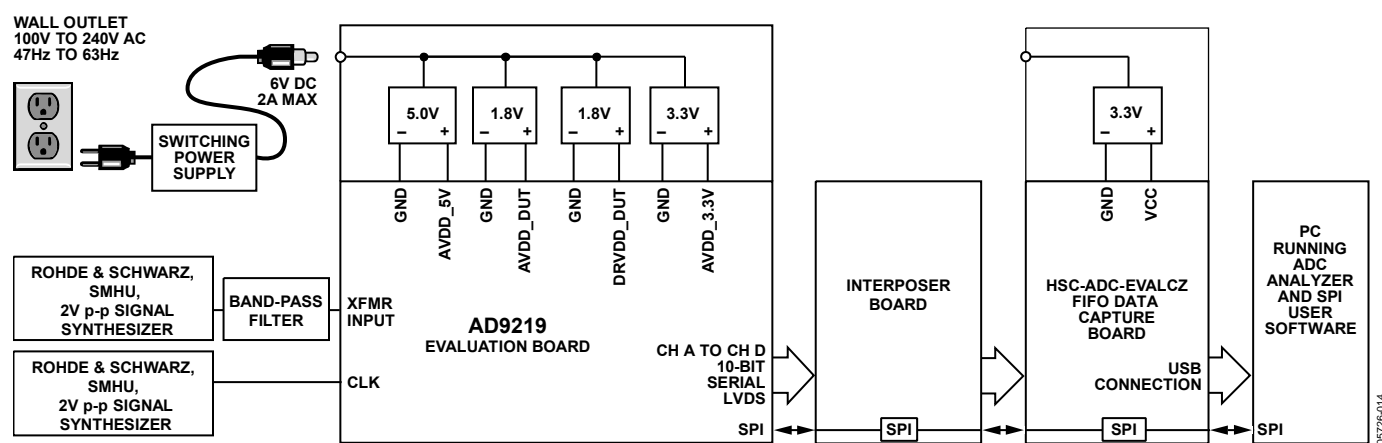
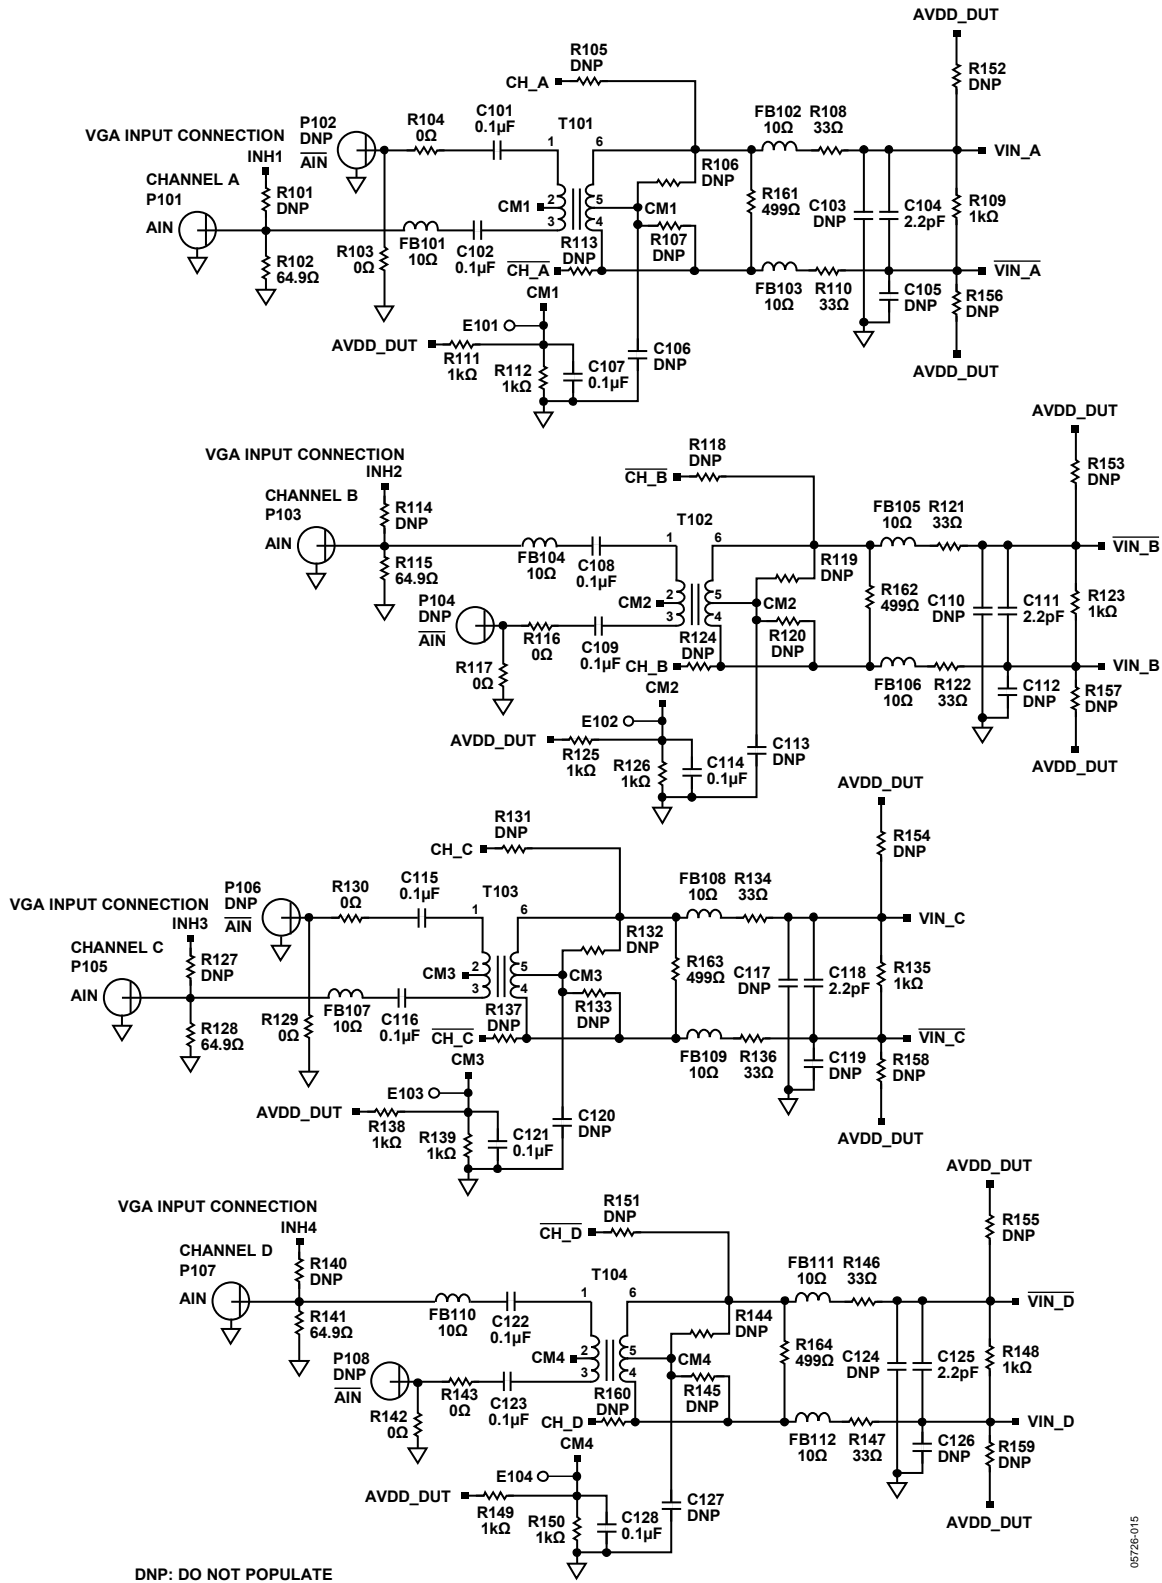
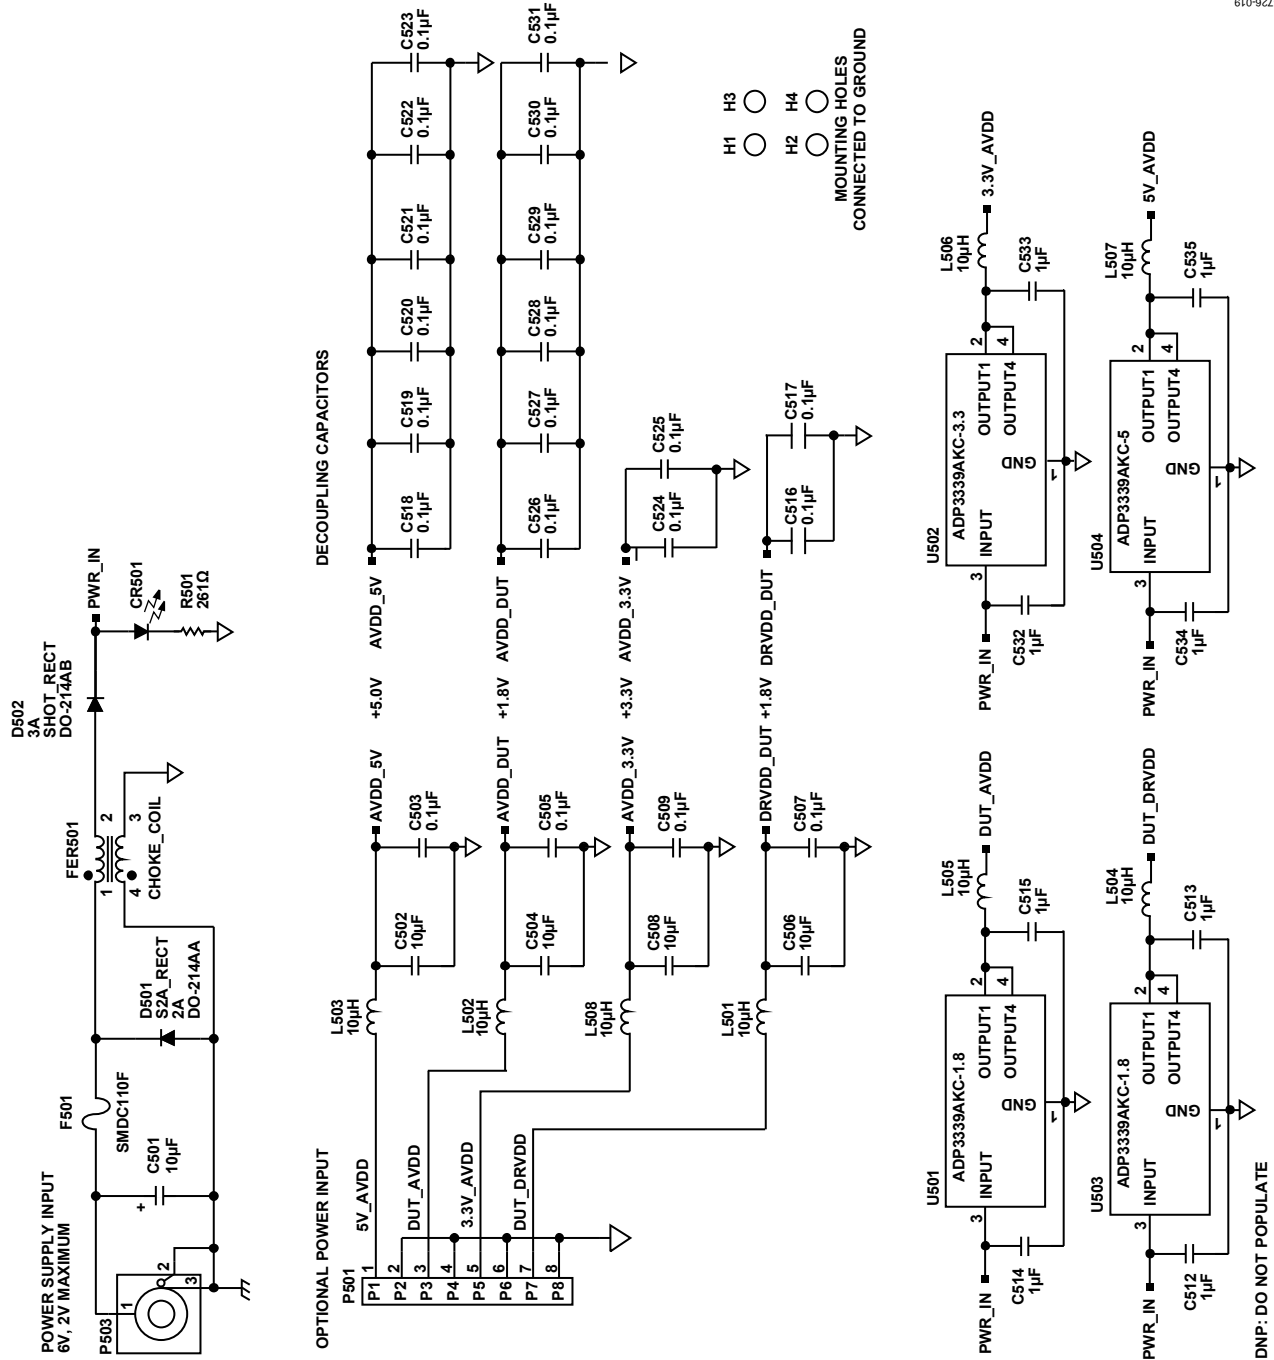
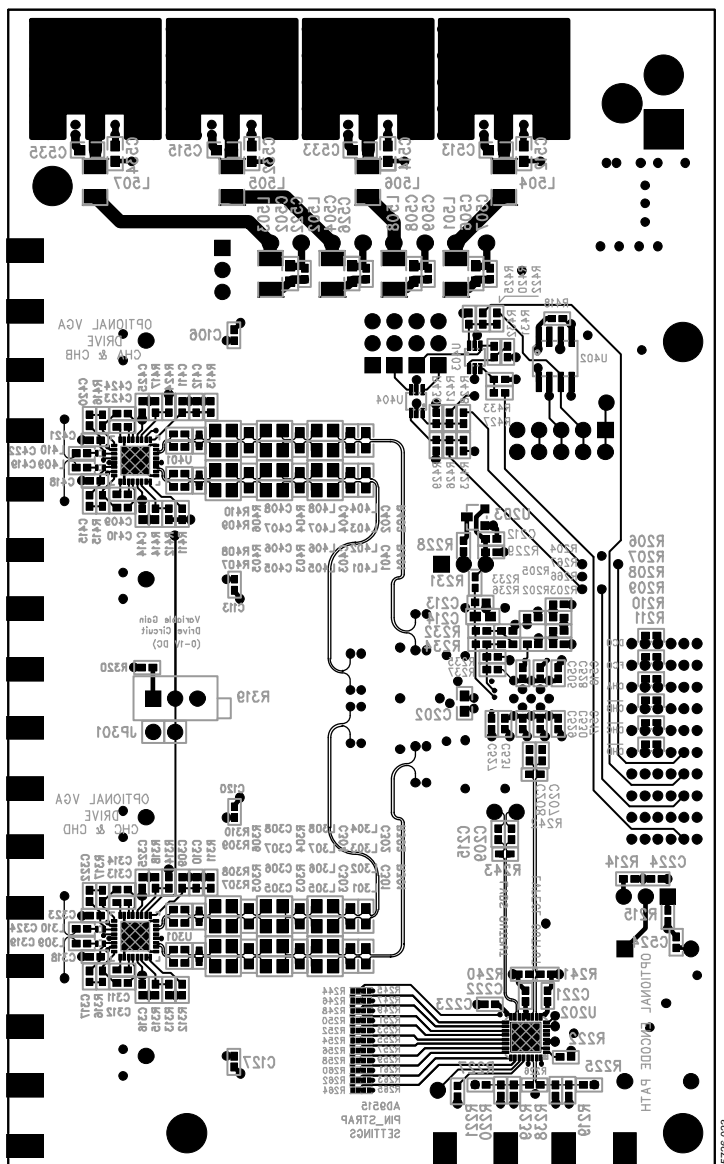

Figure 71. Evaluation Board Connection
Figure 73. Evaluation Board Schematic, DUT Analog Inputs
Figure 77. Evaluation Board Schematic, Power Supply Inputs
Figure 81. Evaluation Board Layout, Secondary Side (Mirrored Image)
The AD9219 evaluation board provides all of the support circuitry required to operate the ADC in its various modes and configurations. The converter can be driven differentially using a transformer (default) or an AD8332 driver. The ADC can also be driven in a single-ended fashion. Separate power pins are provided to isolate the DUT from the drive circuitry of the AD8332. Each input configuration can be selected by changing the connection of various jumpers (see Figure 73 to Figure 77). Figure 71 shows the typical bench characterization setup used to evaluate the ac performance of the AD9219. It is critical that the signal sources used for the analog input and clock have very low phase noise ( $<1$  ps rms jitter) to realize the optimum performance of the converter. Proper filtering of the analog input signal to remove harmonics and lower the integrated or broadband noise at the input is also necessary to achieve the specified noise performance.
See Figure 73 to Figure 81 for the complete schematics and layout diagrams demonstrating the routing and grounding techniques that should be applied at the system level.
- **D + x, D - x:** If an alternative data capture method to the setup shown in Figure 73 is used, optional receiver terminations, R206 to R211, can be installed next to the high speed back-plane connector.